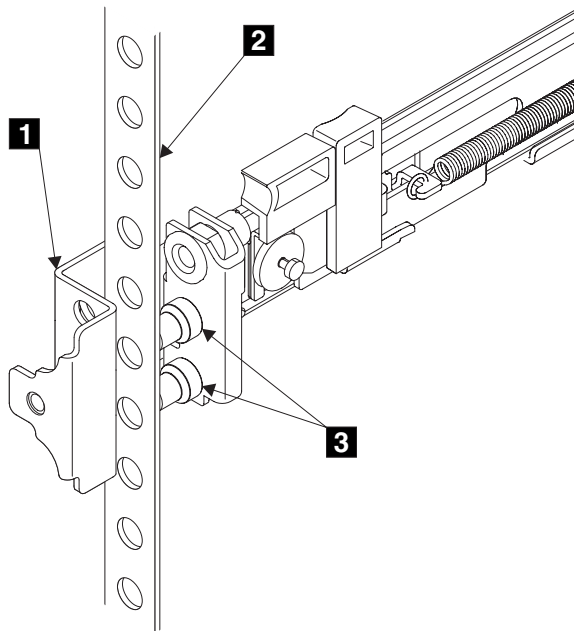

Figure 49. Installing the front end of the rail
6. Place the front end of the left rail in the rack cabinet. Align the top of the front bracket **1** (Figure 49 on page 66) with the required EIA marking that is on